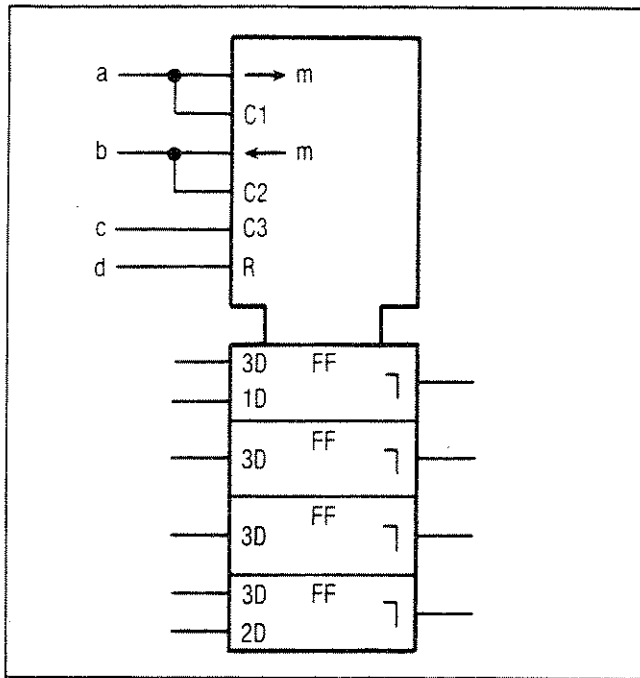

Figure 8-98. Shift Register
**Shift Register.** The shift register (see Figure 8-98) control block shows common inputs to a bidirectional shift register. Notice that ">m" means shift the contents to the right or down by "m" units. And "<m" means shift the contents to the left or up by "m" units. Note: If m=1, then "m" may be omitted. Inputs "a" and "b" are each single IC pins that have two functions.